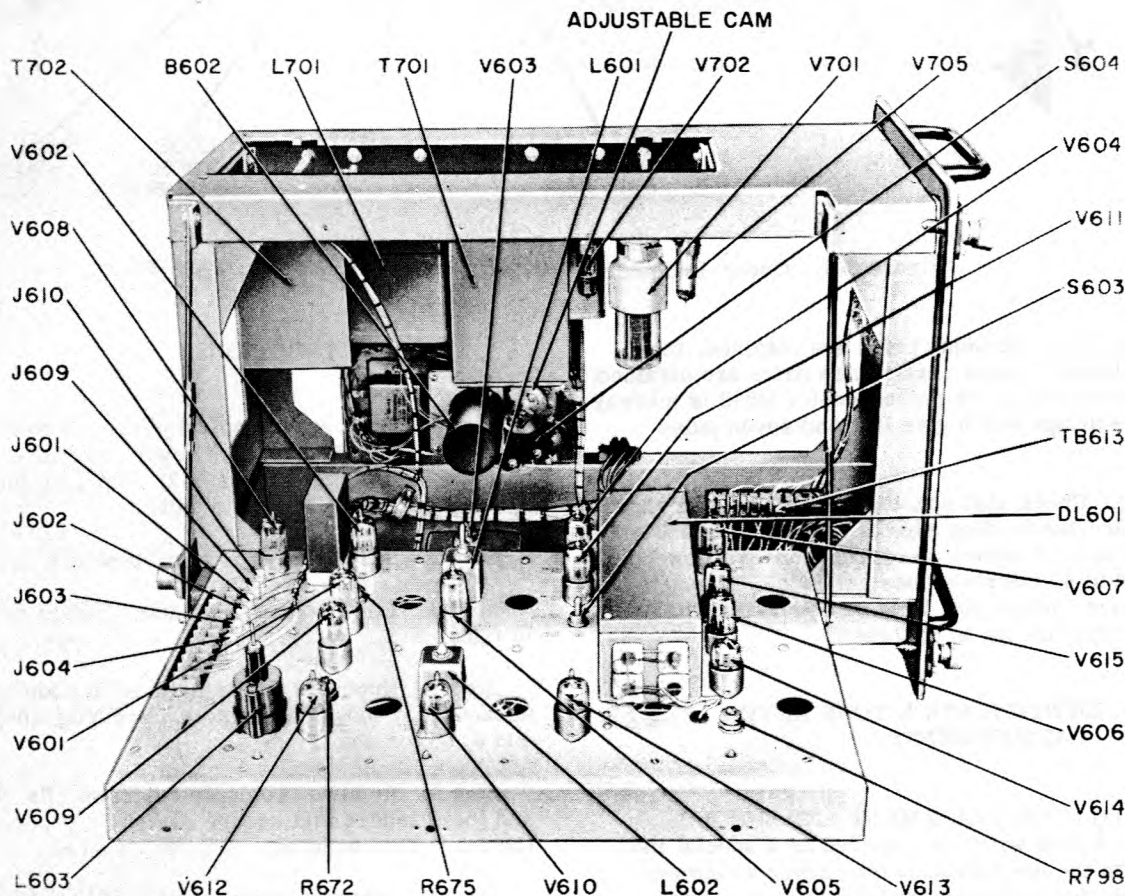

Figure 6-6. Coder-Indicator KY382/GRN-9D, Left Side View with Video Chassis Lowered
Step 3. Lower video chassis as shown in figure 6-6.
Step 6. Set switch S603 (figure 6-6) to CONTINUOUS TONE.
Step 9. If necessary, adjust coil L603 (figure 6-6) until nine tone pulse groups appear between auxiliary reference bursts.
Step 2. Remove plug P906 from jack J603 (figure 6-6).
Step 3. Lower coder-indicator chassis as shown in figure 6-6.
Step 7. Loosen screws located in slots of adjustable cam (figure 6-6) and position adjustable cam so that switch S604 is not actuated. Tighten screws.
Step 11. Set keyer switch S603 (coder-indicator video chassis figure 6-6) to NORMAL KEYING.
video chassis of coder-indicator unit (figure 6-6). The procedure outlined below is based on checking the overall radio beacon delay of 50 microseconds and adjusting delay line DL601 as necessary to obtain that delay. The built-in test equipment is employed for this procedure.